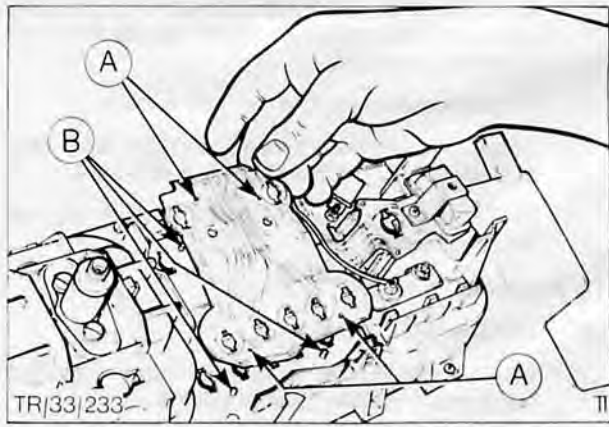

Fig. 57. Locating printed circuit
4. Unpeg printed circuit from its four locating pegs, Fig. 57, carefully untucking circuit from under edges of speedometer housing and fuel/temperature gauge housing. Remove printed circuit.
5. Locate printed circuit onto its four locating pegs, Fig. 57, carefully tucking circuit underneath speedometer housing and fuel/temperature gauge housing where printed circuit overlaps housings.